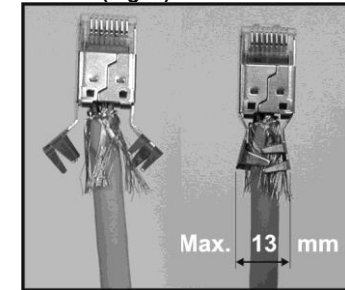

Fig.3.
- ❑ **IMPORTANT: Prior to crimping, close the shield wings by hand. Width of shield wings shouldn't exceed 13 mm (Fig.3.)**